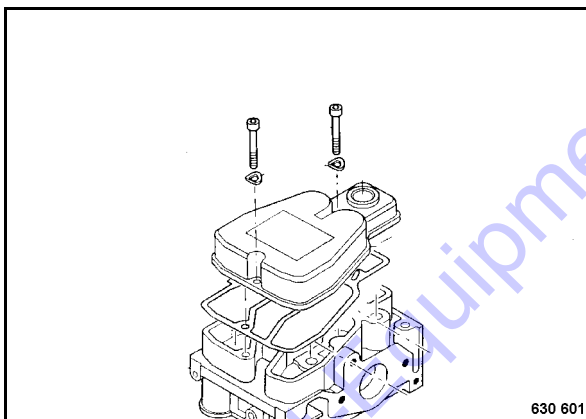

Fig. 76
- Remove the valve cover (Fig. 76).